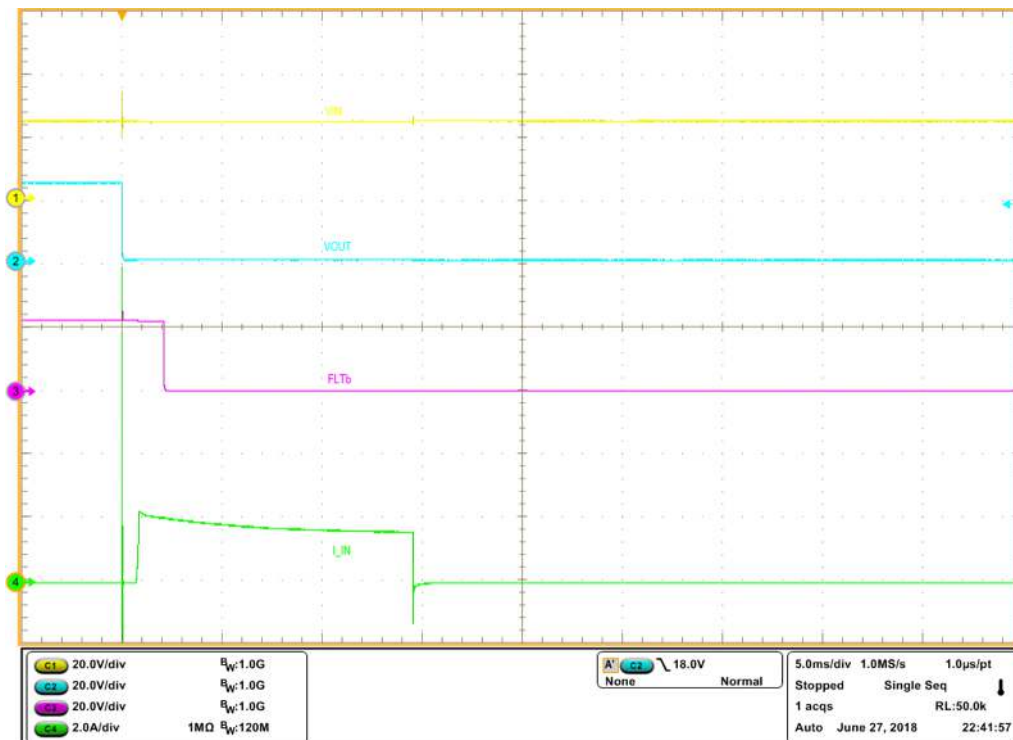

Figure 2. Output Voltage Start-Up Waveform
4. Enable the power supply and verify that the output voltage startup waveform is as shown in Figure 2.